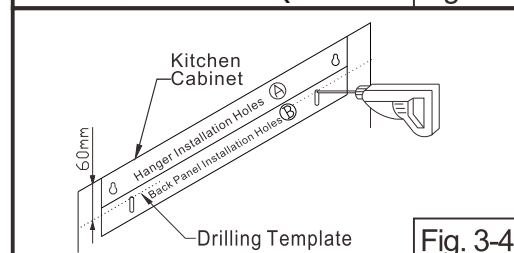

Fig. 3-4
- Rest the drilling templateⒷ against the wall. The distance between the bottom of cabinet is 60mm. Drill holes at the indicated positions (1 hole each at left and right), fix sleeve anchor to the drilled holes. (Fig. 3-4)